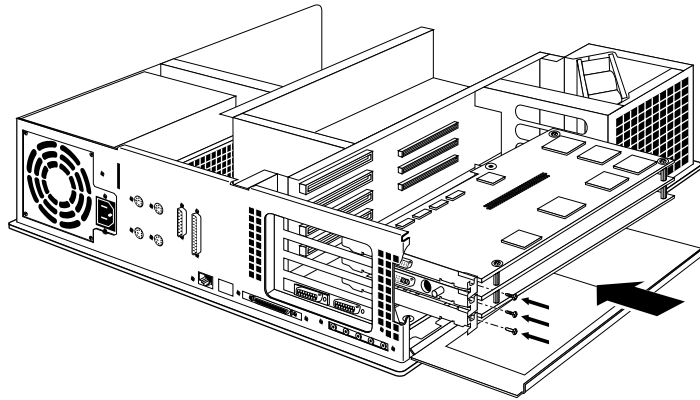

Figure 5-1 Installing XZ graphics/video boards
1. Align the metal back plates with the I/O slots on the chassis. Align the opposite edge of the board(s) with the metal grooves as shown in Figure 5-1.
3. Insert and tighten the screws that hold the board set to the chassis. The screw openings are located on the metal extension, as shown in Figure 5-1.